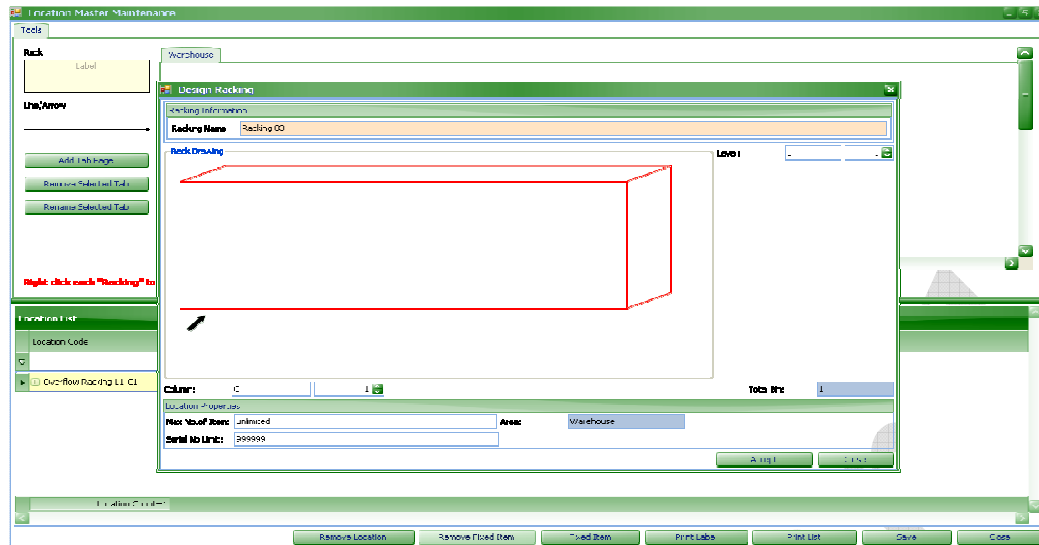

Fig. 14
Step 2 Pick the rectangle shape named “Rack” under “Tools” sub-screen and drag it to “Drawing Canvas”. (Fig.14)